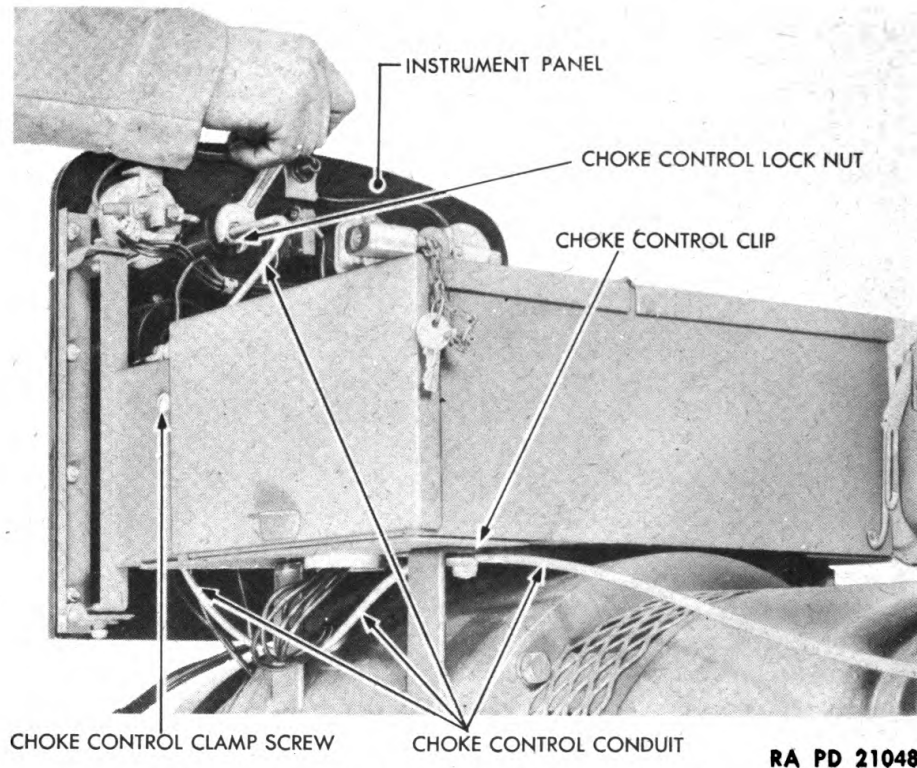

Figure 43 – Choke Control Assembly Removal
(2) Loosen conduit clamp screw at carburetor and loosen the screw attaching the choke wire to the choke valve lever.
(3) Screw the choke control lock nut completely off the threads (fig. 43) and pull choke control assembly out through the front of the instrument panel. The complete parts for the choke control assembly are shown in figure 44.